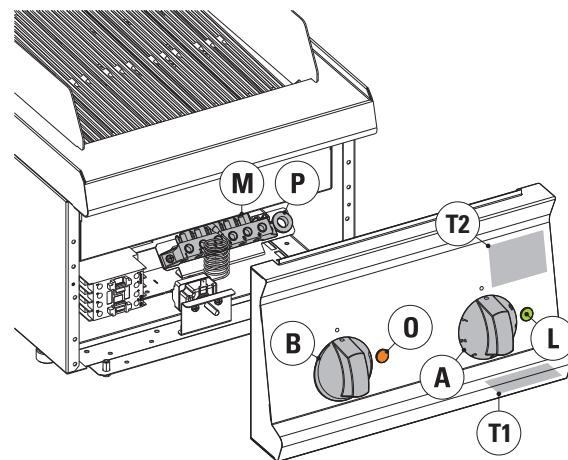

fig.2
All models are supplied without cable. To reach terminal board | **M** | fig.2, remove the control panel by loosening the screws on the lower part of the panel. Following the indications in the wiring diagram, connect the wires of the power cable to the terminal board. Make sure you slide the cable through the relevant cable clamp | **P** | fig.2 near the terminal board, hold the cable in place until you can block it with the relevant cable clamp | **Q** | fig.1.
- Fill the tub with water by twisting the knob | **B** | fig.2. When at the "end point" position, the fill valve always remains open. When at intermediate positions, a variable water fill "flow" is achieved.
- By twisting the knob | **A** | fig.2 it is possible to select the desired power level on the panel index.
- Remove the overflow | **D** | fig.2 from its housing by lifting it and allow the water to drain.